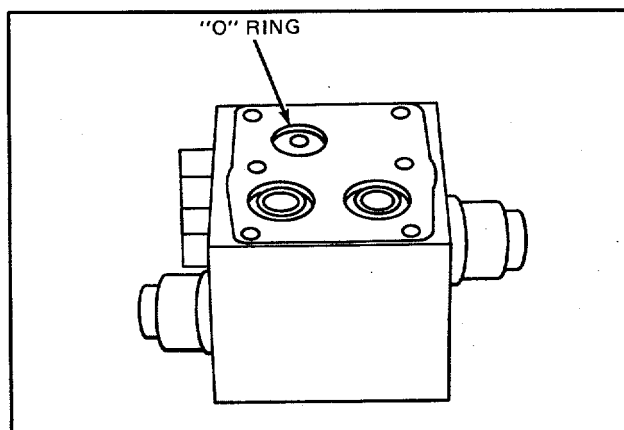

Figure 30.
3. The remaining groove requires only an O-ring (refer to Fig. 30).